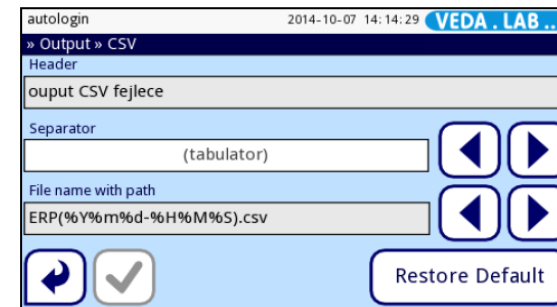

Figure 49 : The Output >CSV screen
- 3 On the **Output>CSV** screen, tap inside the **Header** text box for an input screen (Cf. *Figure 49*), and enter the text that you would like to be the header for the transferred data.
**i** If you would like to export the data as a .txt file, you have the option of specifying the file name. Tap inside the **File name with path** text box to display an input screen (Cf. Figure 49), and enter your preferred file name. If you do not specify a file name, the system generates a file name using the date and time of the creation of the file.